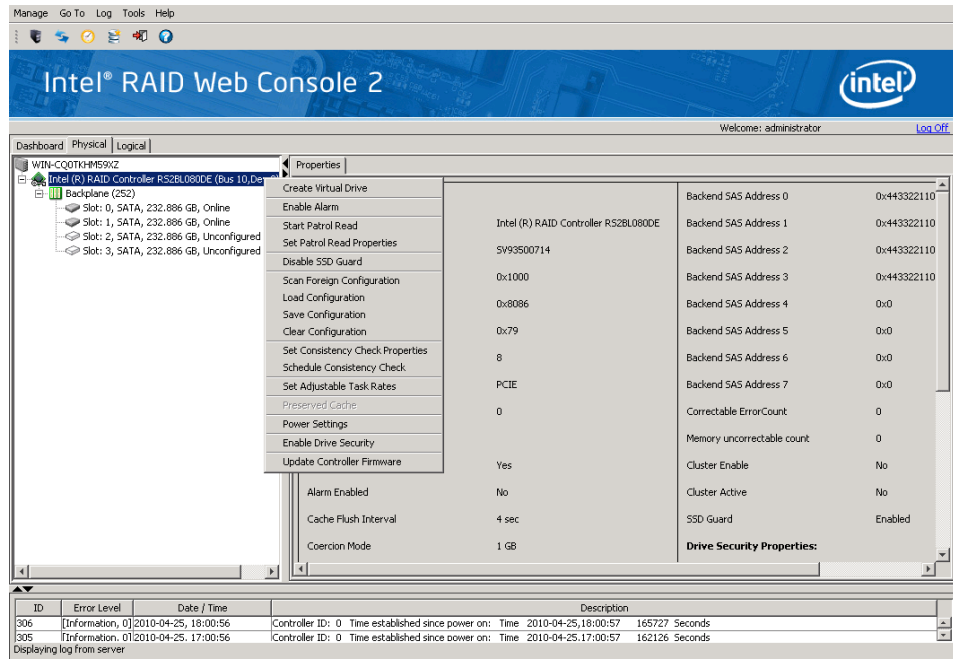

Figure 48. Virtual Drive Creation Menu
- Select the controller node and select Go To -> Controller -> Create Virtual Drive in the menu bar, as shown in Figure 48